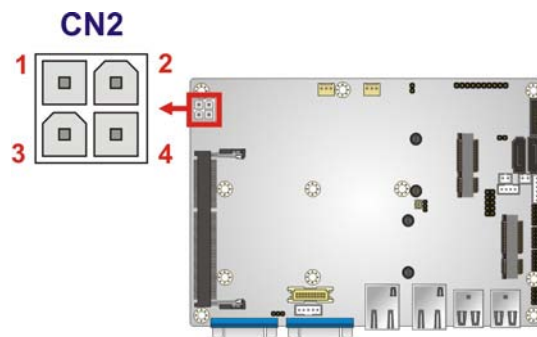

Figure 4-12: Power Connector Location
- CN Location: See **Figure 4-12**